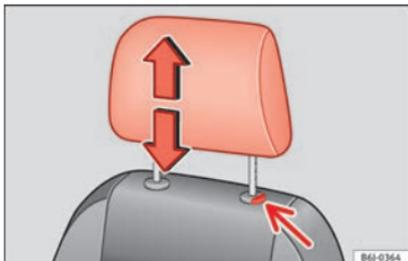

Fig. 133 Adjusting and removing the head restraints.
- Press the button » **Fig. 133** (arrow).